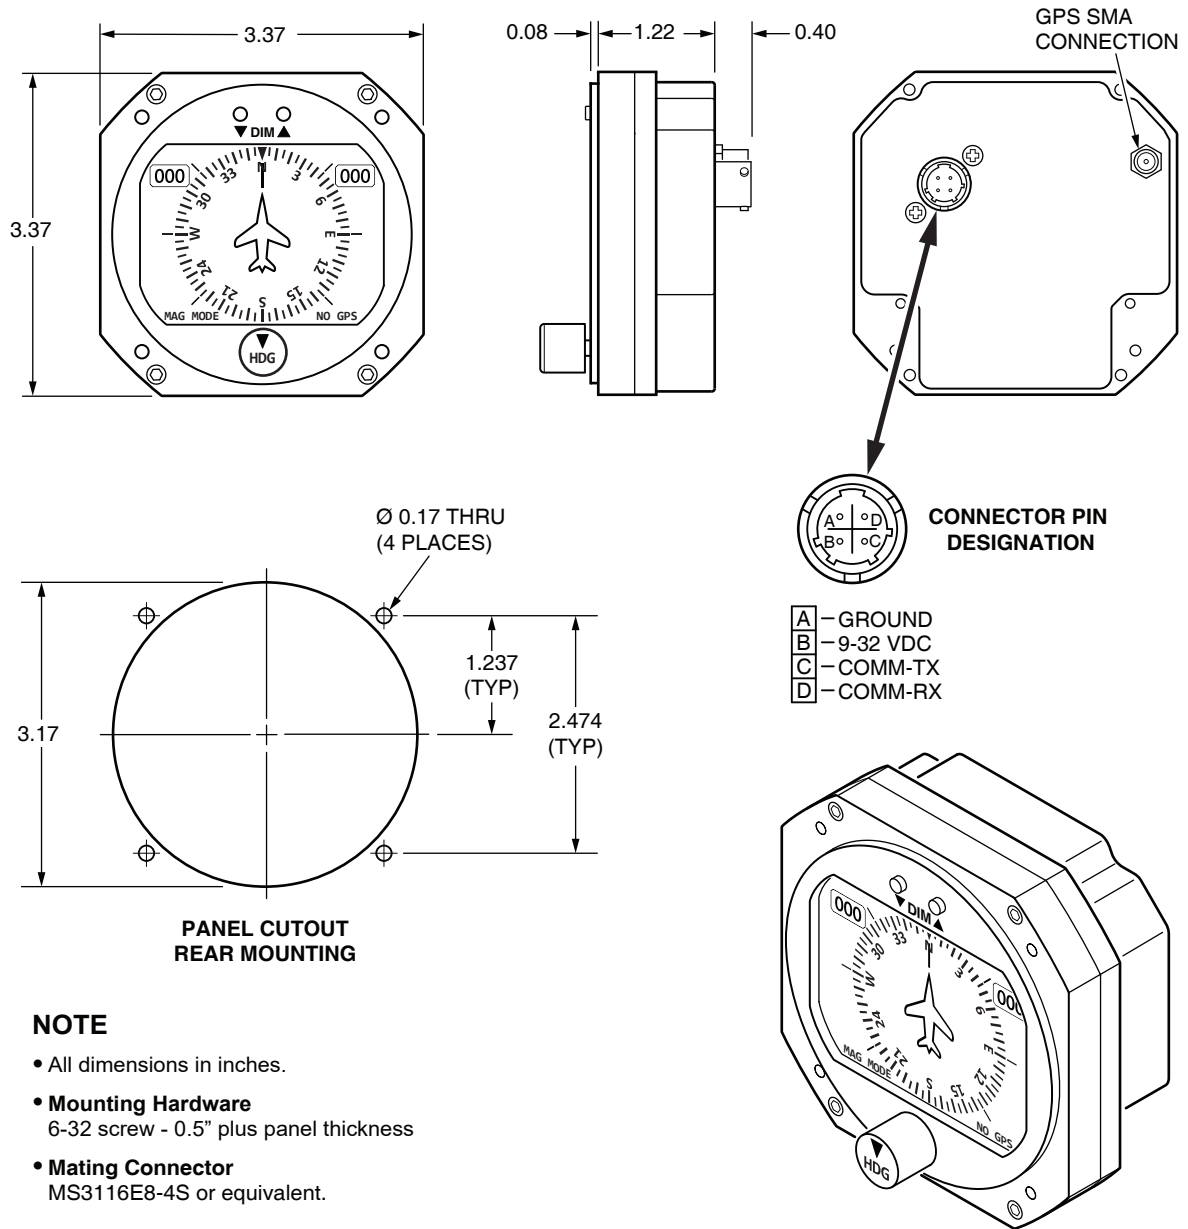

Figure 1.1, General Dimensions
DIMENSIONS/PANEL CUTOUT	SEE FIGURE 1.1
1. The RCA1510 uses standard panel cutouts. Refer to Figures 1.1 "General Dimensions" for instrument and cutout dimensions.
Serial Port Communication Pins: Utilize an external GPS receiver by connecting the serial data output of the GPS receiver to the **RCA1510** pin A (Ground) and pin D (Comm-Receive) (See Figure 1.1).
4. Insert instrument into panel cutout (See Figure 1.1) and secure with supplied screws. Use 6-32 *UNC-2b* screws or equivalent. Screw length should not exceed .5 inches plus bezel and panel thickness. Do not tighten.